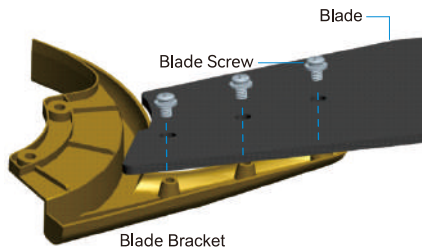

Fig 1.1
1.1 Locate 9 blade attachment screws in the hardware pack. Secure each blade to the blade bracket using blade screws as shown in Fig 1.1.